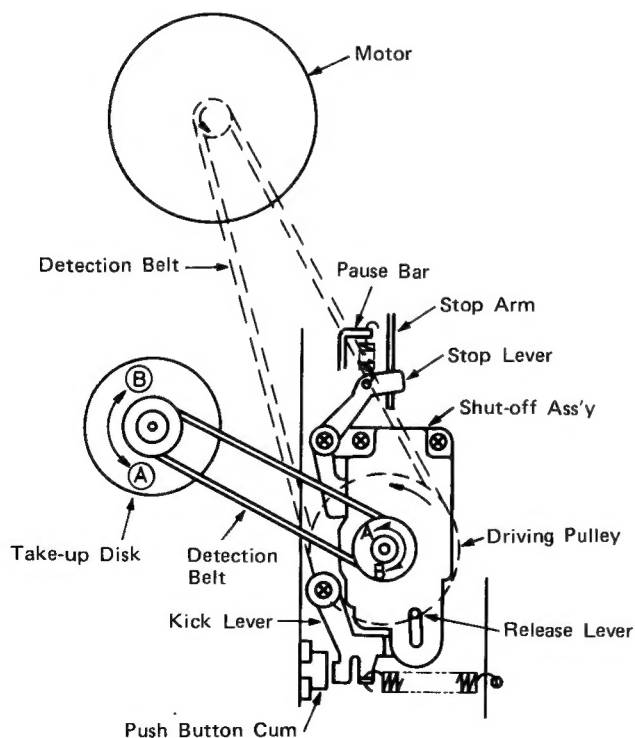
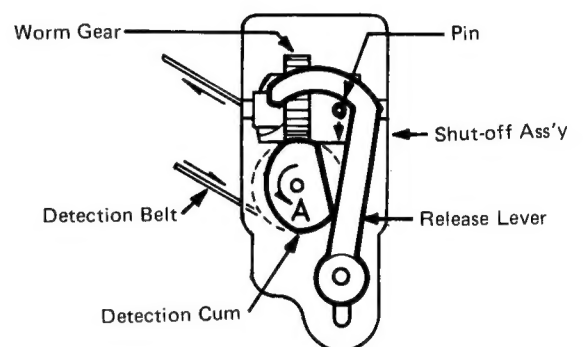

Fig. 5
Fig. 7
The gear is always turning while the motor is rotating. In the playback, recording, and F.F. mode, the take-up disk is turning to the (A) direction as shown in Fig. 5 and the rotation is transmitted to the detection pulley by way of the detection belt. The detection cam that is swung to the (A) direction as shown in Fig. 7 by the friction of the felt which is contacted with the detection pulley pushes the release lever outward. In the rewinding mode, the take-up disk turns to the (B) direction as shown in Fig. 5. The detection cam swings to the (B) direction as shown in Fig. 8 and the release lever is pressed outward. The release lever does not engage with the pin which is projected from the worm gear, while the tape is running, so that the auto stop mechanism does not function.
If the PAUSE button is pressed, the stop lever as shown in Fig. 5 pushes the release lever not to engage with the pin. When the tape stops, in the any mode, the release lever moves to the (C) direction as shown in Fig. 10. The projection (D) of release lever engages with the pin and the release lever is moved to the (E) direction. The release lever pushes the kick lever and the kick lever presses the push button cam to release the lock of buttons so that the mechanism becomes stop mode.